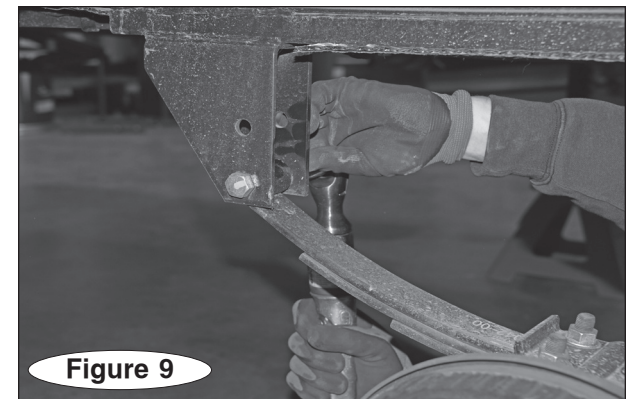

Figure 9
a. Insert the eyelet end of the spring between the flanges of the spring hanger, and reinstall the bolt you removed in step 5 (Figure 9). Drive the bolt home using a hammer to fully re-engage the splines.